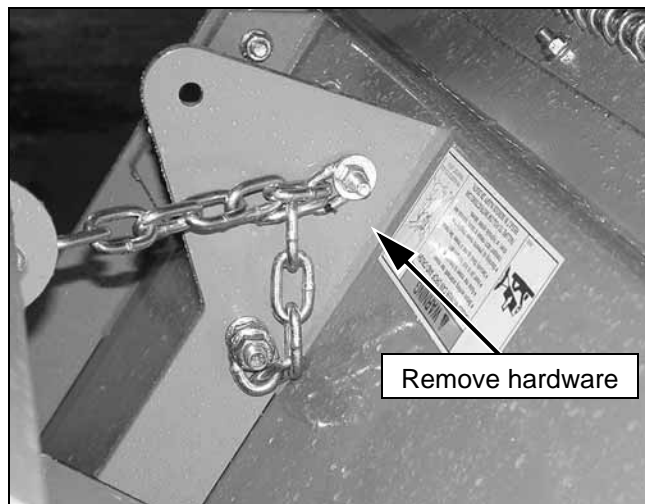

Figure 27. Remove Shipping Hardware
4. Remove 3/8 bolts, washers, and nuts from both rear lift chains. See Figure 27. This hardware is for factory shipping purposes only and can be discarded.